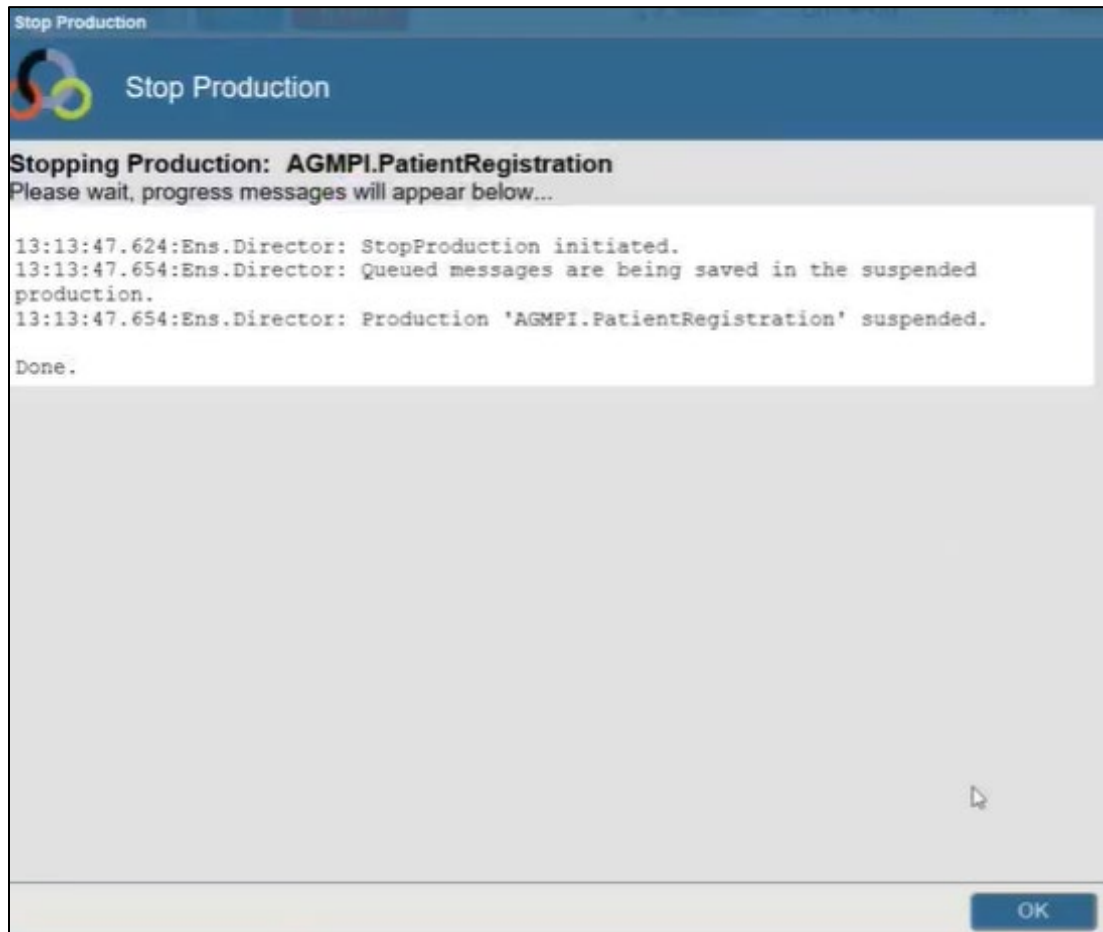

Figure 8-6: Stop Production window
3. The **Stop Production** window opens. Click **OK** (Figure 8-6).